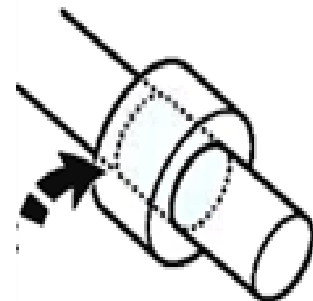

Figure 2
- 3) The area of resistance (see figure 2) varies with different jobs. It is recommended that for manual pullers, the diameter of the puller screw should be at least $\frac{1}{2}$ the diameter of the shaft. For hydraulic pullers, a good start for the tonnage required should be around 8-10 times the diameter of the shaft. For example: